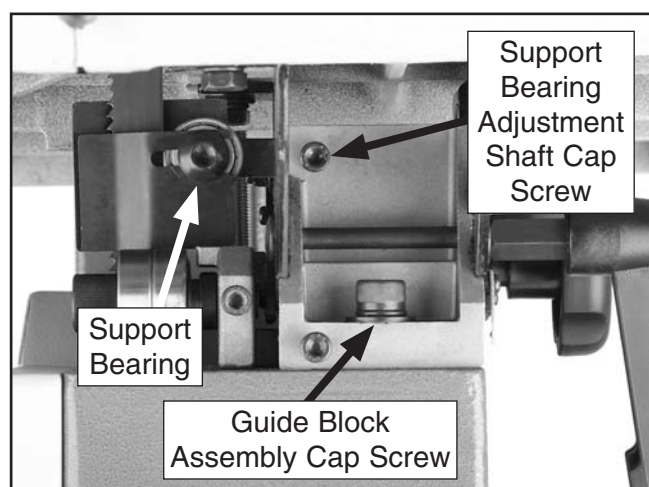

Figure 54. Lower support bearing controls.
3. Familiarize yourself with the lower support bearing controls shown in **Figure 54**.